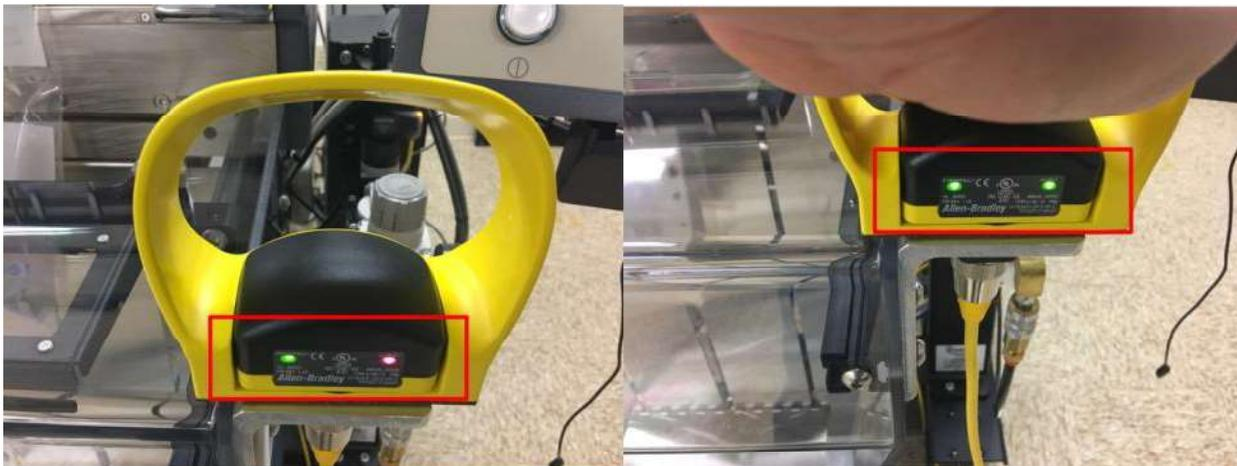

FIGURE 3-38. PALM SENSOR LEDS
2) RESET TOTAL COUNT? Tap YES to reset the value to zero and return to the HOME screen (Figure 3-38).